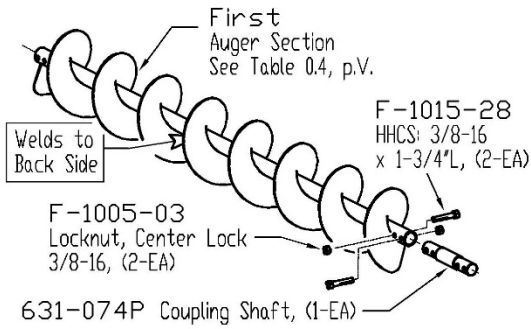

Fig 10.21
**10a. Locate the Auger Sections and Prepare the 1st as shown in Fig 10.21 .**
- Install the Hanger Bearing Shaft from the Wood hanger Bearing Kit into the Discharge end of the 1st Auger Section and fasten as shown in Fig 10.21.